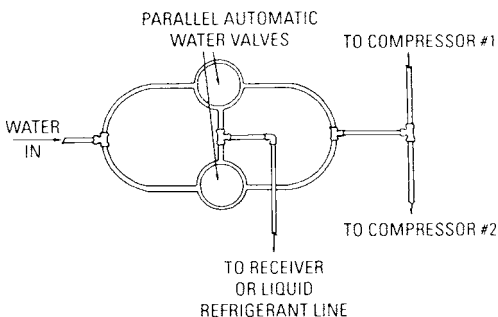

Figure 15-8 A method of interconnecting water valves.
- Single automatic water valves or multiple valves in parallel (Fig. 15-8) should be installed in the common water line.